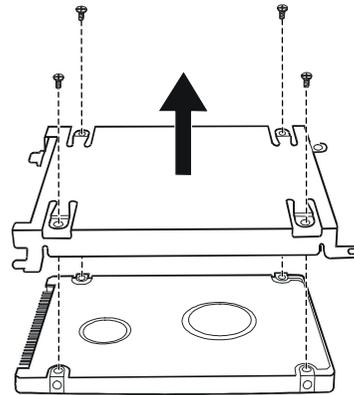

Figure 2-16 Free the Hard driver
5. Remove four screws to separate the hard disk drive from the metal shield. (See Figure 2-16)